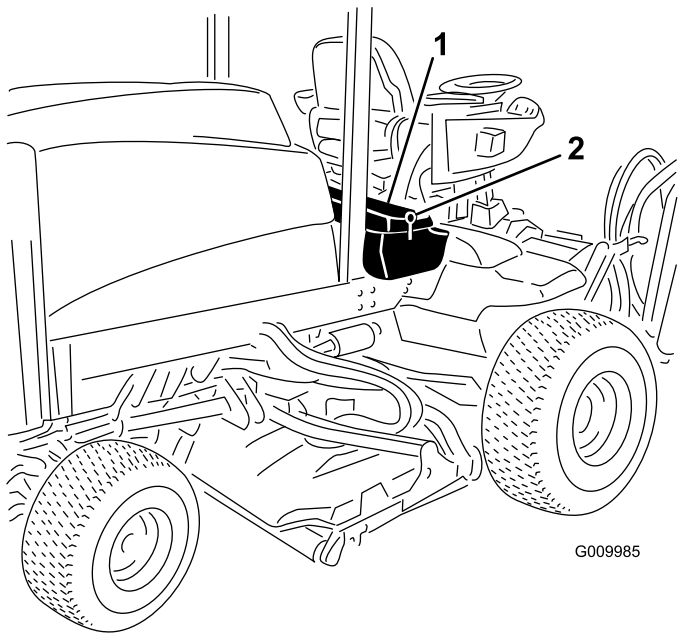
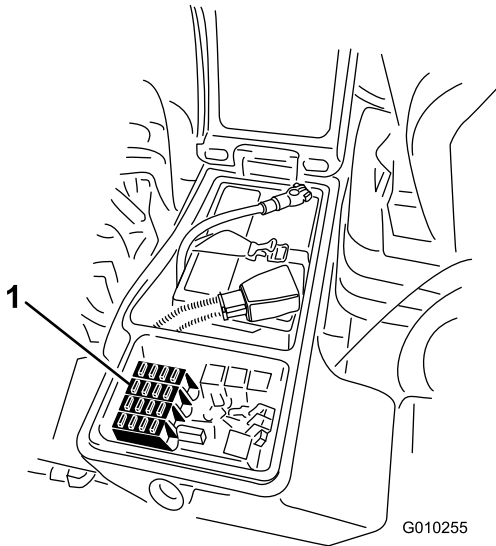

Figure 50
Figure 51
1. Loosen the latch for the cover of the right storage box and raise the cover (Figure 50) to expose the fuse block (Figure 51).
2. Replace the open fuse(s) as needed (Figure 51).
3. Close the cover of the right storage box and secure the cover with the latch (Figure 50).